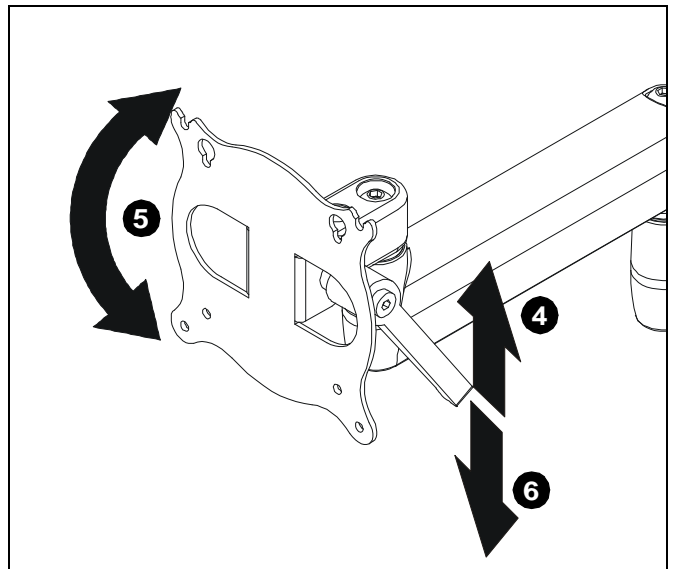

Figure 14
4. Lift handle up until pitch can be adjusted easily. (See Figure 14)
5. Adjust pitch to desired position. (See Figure 14)
6. Push handle down until faceplate is locked at desired pitch position. (See Figure 14)